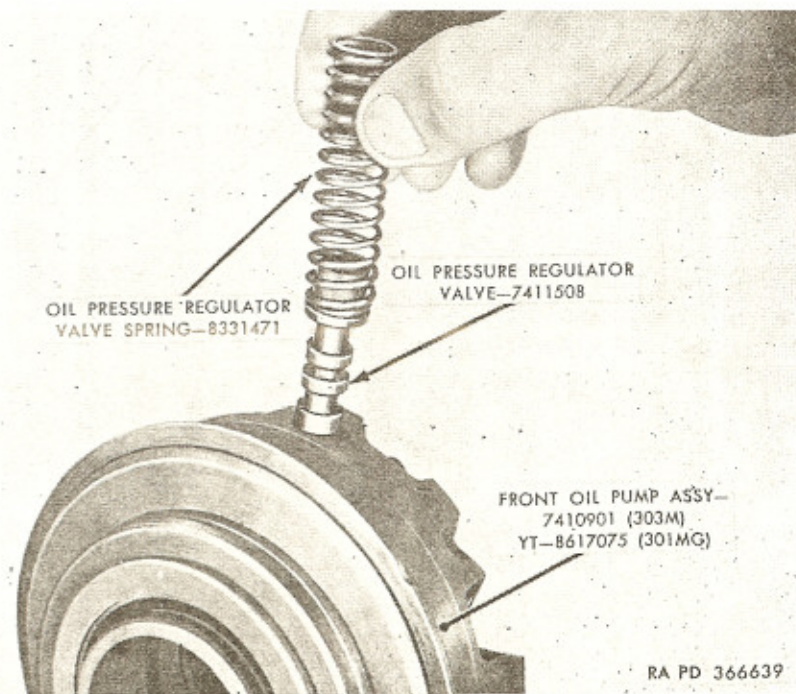

Figure 90. Checking fit of pressure regulator valve in pump body.
- (1) Check bleed holes in pump slide (G) to be sure holes are not restricted. Make sure that slide is free fit in pump cover and does not bind or stick. Examine slide for nicks, scores, or excessive wear.
- (2) Examine pump vanes (E) for scores, burs, nicks, or pits. Vanes will have a distinct polished wear pattern on side which contacts pump slide. Check for excessive wear. Check pump vanes in slot of rotor for freeness (par. 161).
- (3) Check pump rotor (F) for excessive wear (par. 161). Inspect all surfaces for nicks, burs, chips, or cracks.
- (4) Check oil pump cover (B-2) for cracks, nicks, or scores. Be sure that surface mating with body is smooth. Check oil seal ring groove in cover for excessive wear (par. 161) or other damage. Inspect inner slide surface of pump cover to be sure that part is satisfactory for continued service.
- (5) Check oil pump body for cracks, nicks, or scores. Be sure that surface mating with body is smooth.
- (6) Inspect pump body bushing for excessive wear (par. 161). Slight wear is permissible. If bushing shows evidence of excessive wear on one side, it is an indication that either the bushing is not concentric with cover or the locating bore in flywheel housing is not aligned with crankshaft bore in crankcase.
- (7) Check pressure regulator valve in bore of pump body (fig. 90). Valve must be free and operate without sticking.
- (8) On Model 301MG transmission, check fit of relief valve (N) in pump body (par. 161). Valve must operate